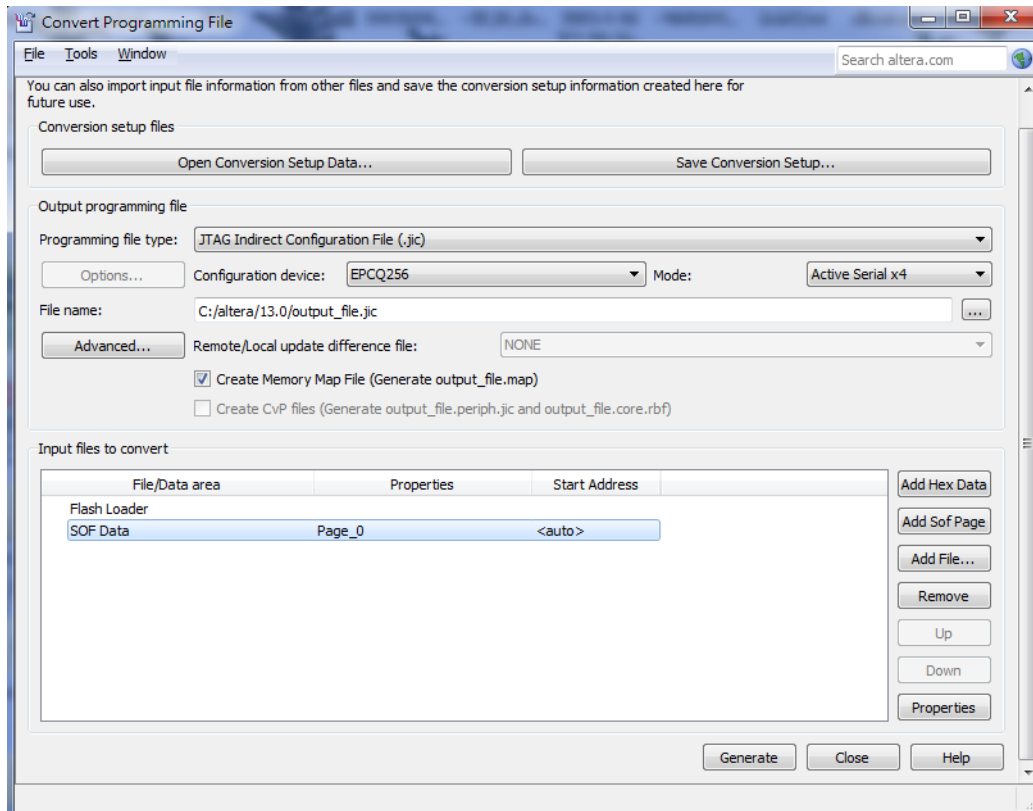

Figure 7-2. Convert Programming Files Dialog Box
10. Highlight the Flash Loader and click **Add Device**. See Figure 7-2.